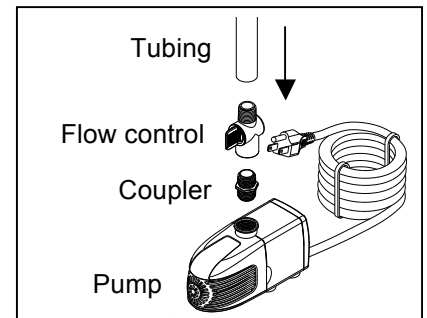

Fig. 1
1. Connect tubing to the outlet of the pump with flow control and coupler. Fig. 1